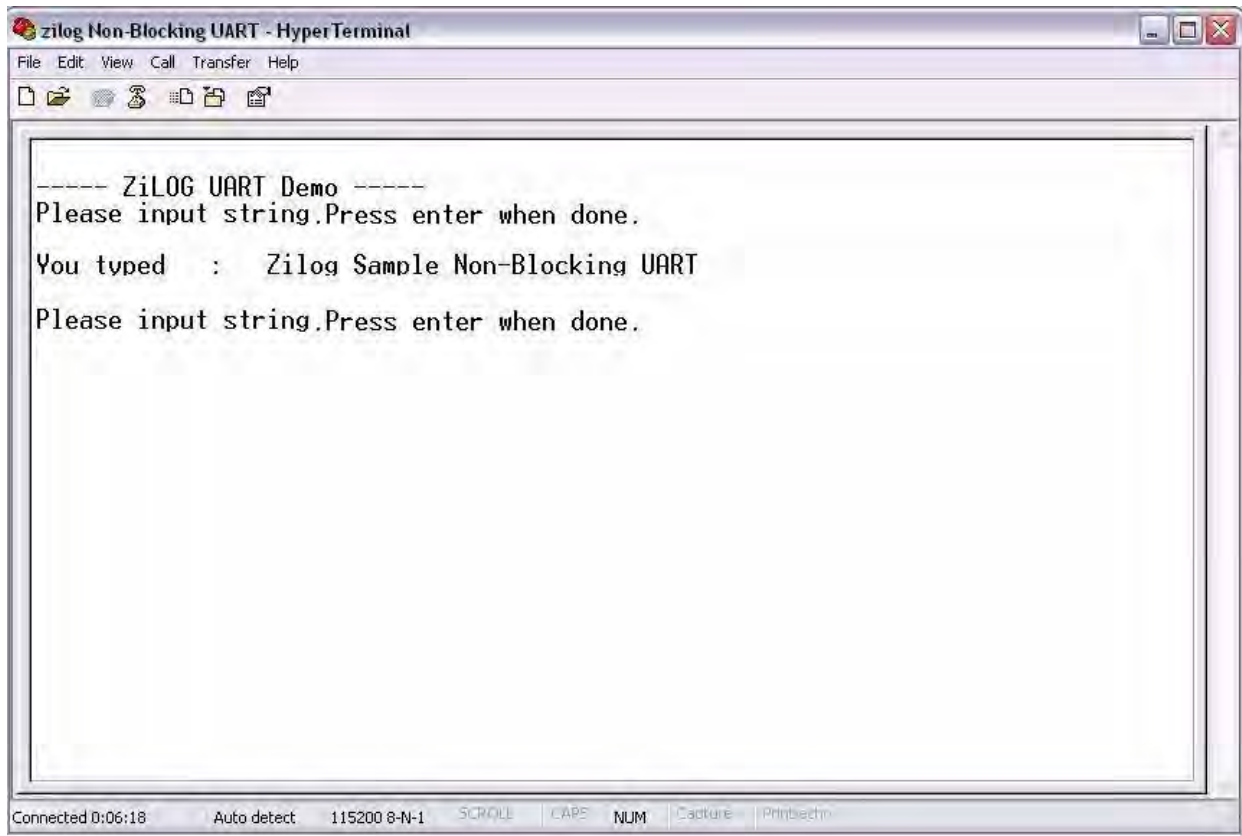

Figure 11. The Entry Screen
11. At the prompt, enter any character string, then press the Enter key. The string will display in the HyperTerminal window, as shown in Figure 11.